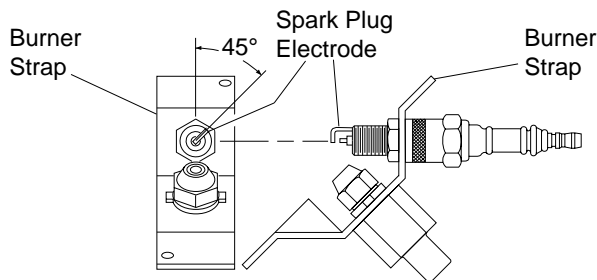

Figure 18 - Spark Plug Rotation, 35/55,000 Btu/Hr Models Only
10. Replace burner strap onto spark plug. Rotate burner strap to position spark plug electrodes (see Figure 18, page 12).